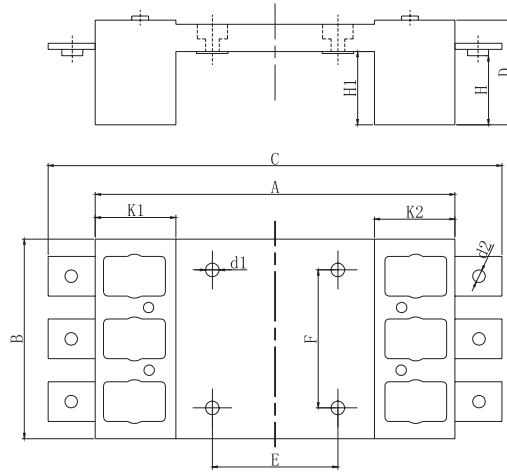

Fig. 3 Front-panel plug-in type outline and installation dimensions
9.2 The outline and installation dimensions of the front-panel plug-in type see Fig. 3 and Table 13: